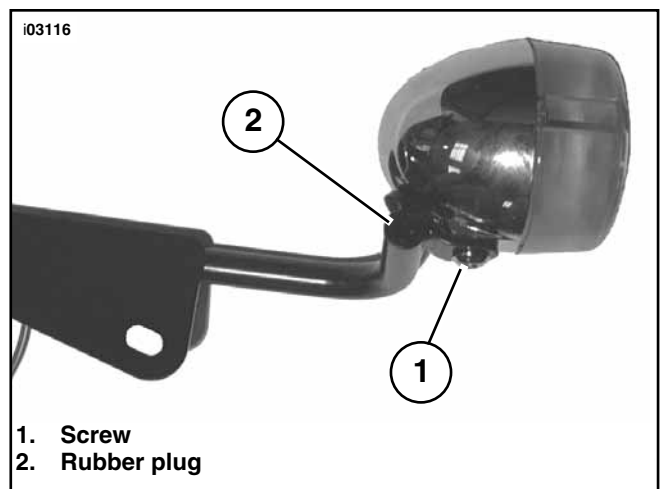

Figure 7. Installing 3 inch Signal Lamps (Standard Style)
See Figure 7. Apply LOCTITE 243 (Blue) to screw (1) (Part Number 3538). Using screw and lock washer (Part Number 7042), attach lamp to signal relocation bracket as shown. Tighten securely. Repeat step 7 for the opposite signal.